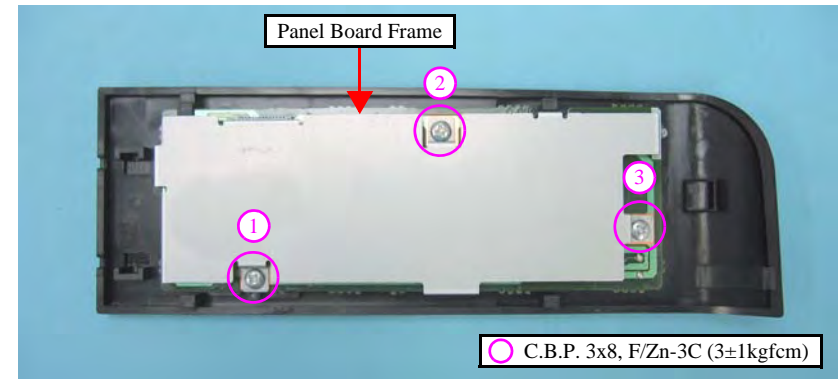

Figure 4-23. Removing the Panel Board
- When installing the Panel Board, match the positioning holes of the Panel Board with their positioning pins of the Panel Housing as shown in Figure 4-23.
- Tighten the screws in the order given in Figure 4-23.